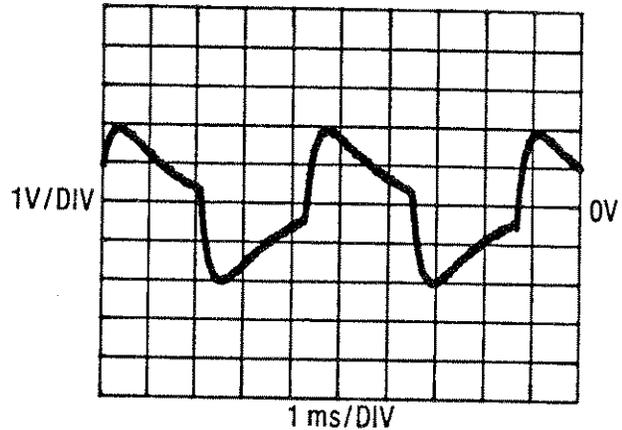

Figure 8-42. Variable Gain Amplifier Waveform
2. Compare the waveform at A5TP18 with Figure 8-42. If the waveform is incorrect, perform the Range Attenuator ( $\div 1$ ,  $\div 100$ ) and Variable Gain Amplifier Tests. If the waveform is normal, continue with step 3.